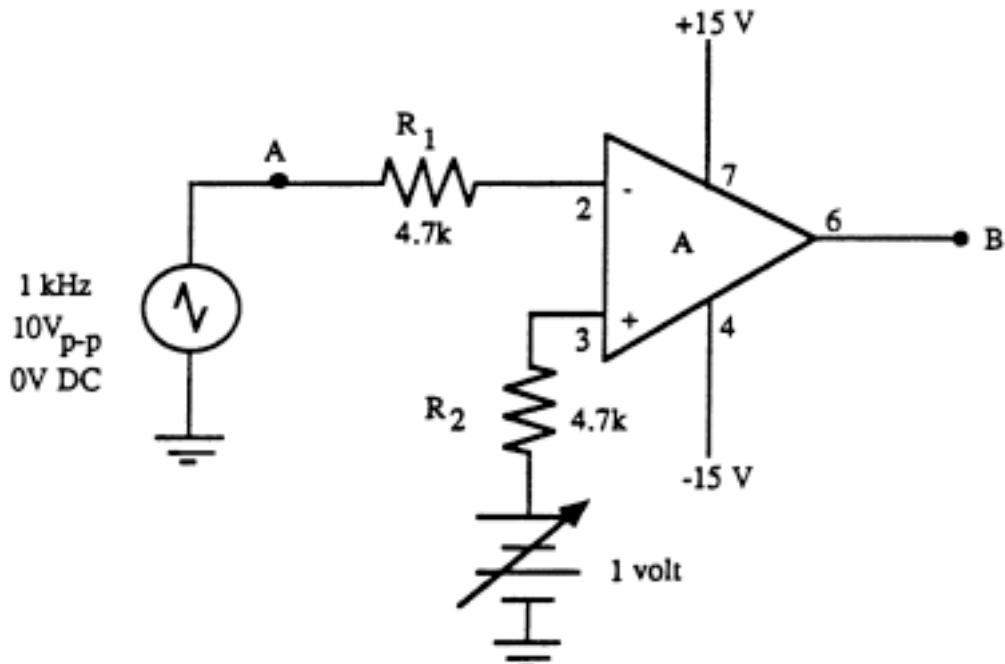

Figure 1 - Op-Amp comparator circuit
- (1) Build the comparator circuit of Figure 1. The variable DC offset shown connected to the positive terminal of the Op-Amp is generated by using the 5V part of the triple power supply. Initially, this voltage is to be set to 0V.
- (2) Using the waveform generator, create a triangular input signal to the negative terminal of the Op-Amp with a frequency of 1kHz, an amplitude of $10 \text{ V}_{\text{p-p}}$ and 0 DC offset.
- (3) Display points A and B (input and output respectively) simultaneously on the oscilloscope and record each waveform using HP Benchlink. For more information on how to do this, see Appendix 1. Print these out and turn them in with your lab report.
- (4) Carefully note the phase difference between A and B and note the two switching points in Table 1. The phase difference is defined to be the time difference between the time the input waveform (point A) crosses 0V and the time the output waveform (point B) crosses 0V. To do this, use the cursors and set measurement to time. Place one cursor on the place where the input waveform crosses 0, and place a second cursor on the place where the output crosses 0. Note that this may require manual re-centering of the waveforms, especially if you use autoscale.
- (5) Set the DC offset to +1V and again note the phase difference between points A and B as well as the switching points.
- (6) Repeat step (5) for +2V and +3V DC offset, and at +3V only, again record the waveforms with HP Benchlink Scope.